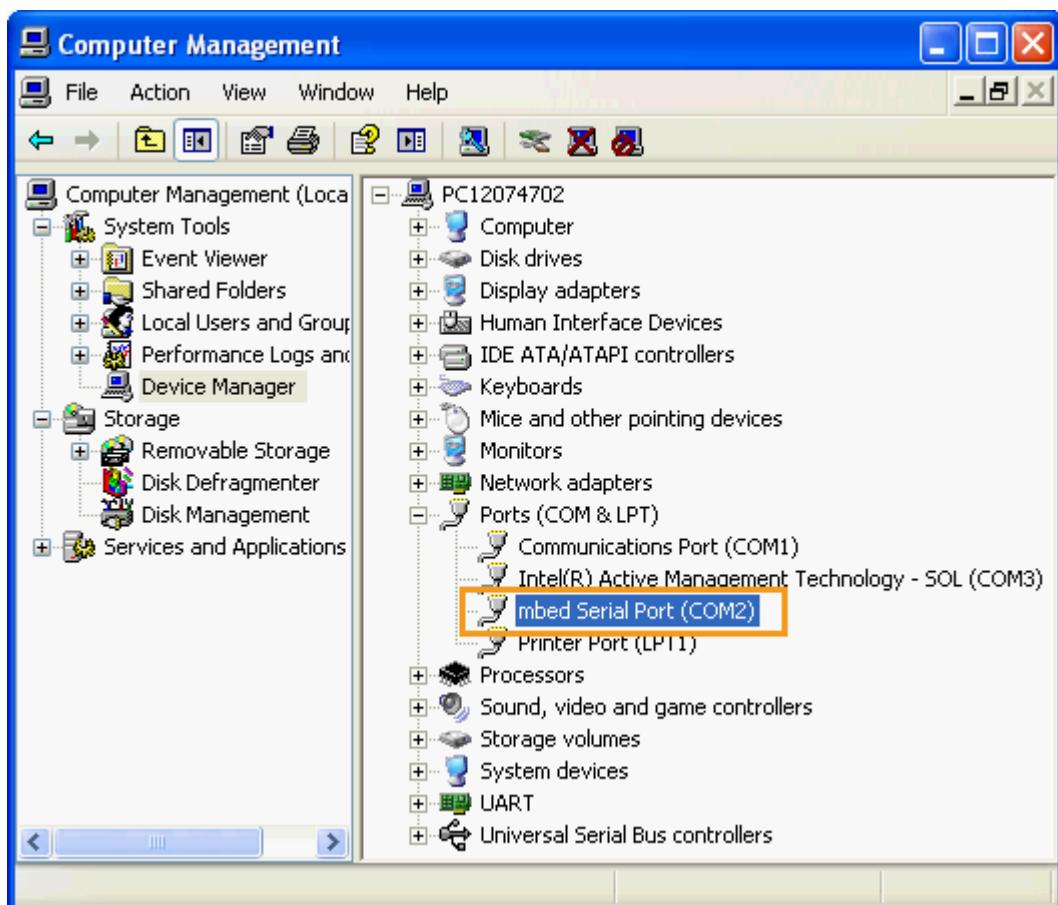

Figure 19. mbed serial port
- 4) In **Device Manager**, navigate to **Ports (COM & LPT)** (see Figure 19).